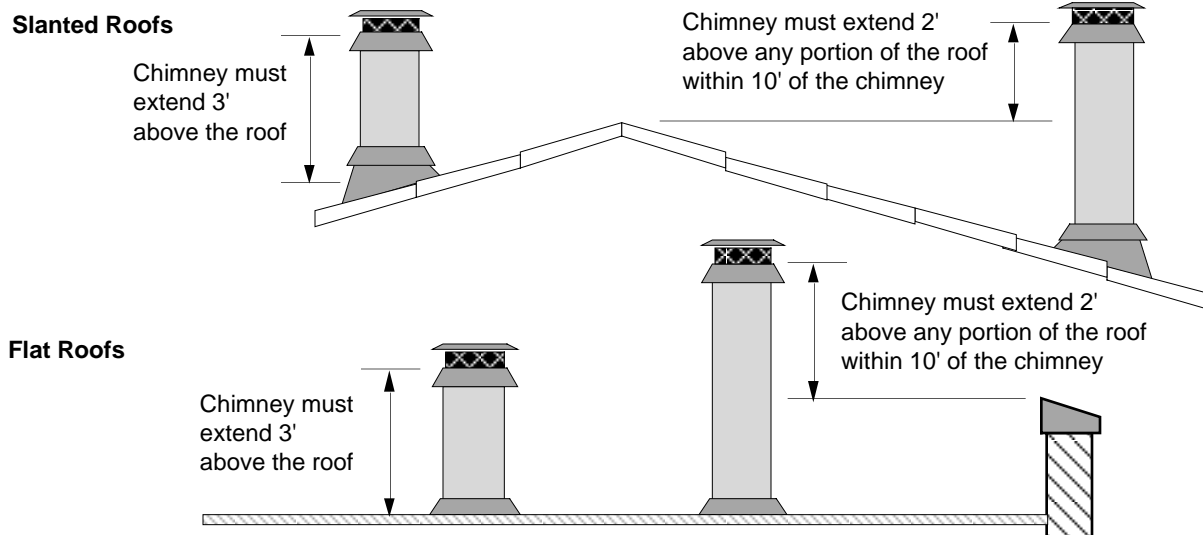

Figure 5
- Must terminate at least 3' above the roof and at least 2' above any portion of the roof within 10' (see Figure 5)